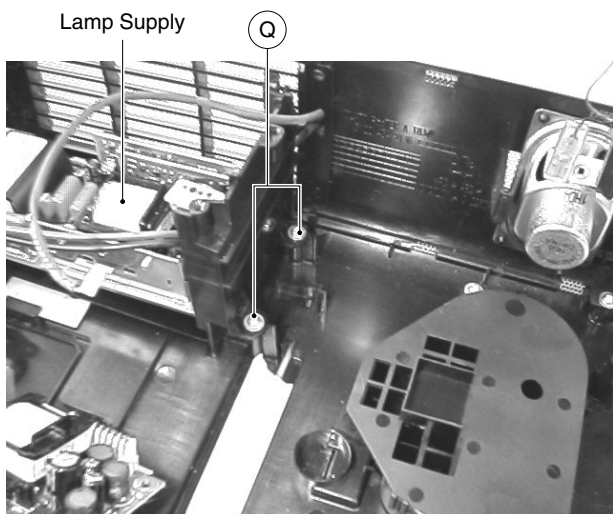

Fig. 14
3. Remove the 2 screws "Q" to remove the lamp supply (Fig. 14).